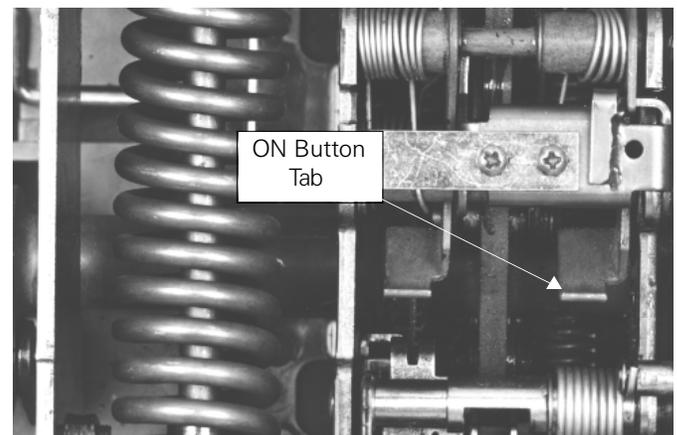

Figure 2. Tab on the breaker mechanism engaged by the On button.
3. Locate the tab on the breaker mechanism that is normally engaged by the on button, shown in Figure 2.